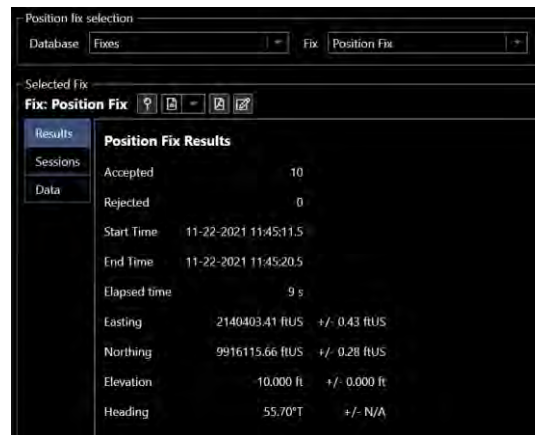

FIGURE 14-81 POSITION FIX QUERY RESULTS EXAMPLE
2. The selected position data will then be used to populate Selected Fix panel as shown in Figure 14-81. For details regarding working with the data from this view, refer to Position Fix View Tool Bar